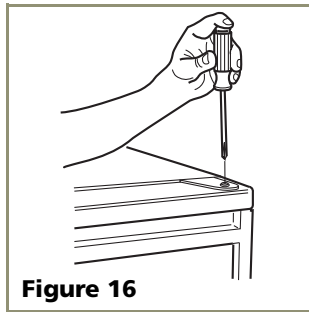

Figure 16
1. Remove top hinge screw pin (Phillips screwdriver, see **Figure 16**). Remove door by tilting forward and lifting off bottom hinge pin.